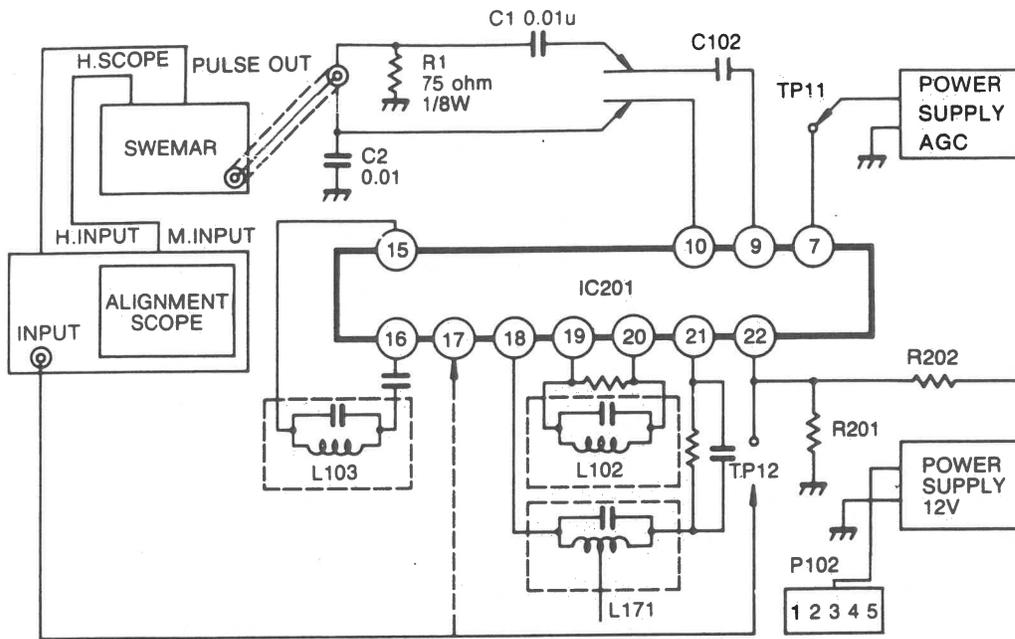

Figure 14
1. Connect the output terminal of the swemar (sweep/ marker) generator to both ends of C102 through the coupled circuit as shown in Figure 14.